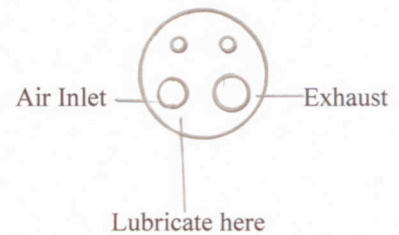

Fig. 1
1. Depress the push button in the head cap with thumb to click, and Remove the bur. Figure 1